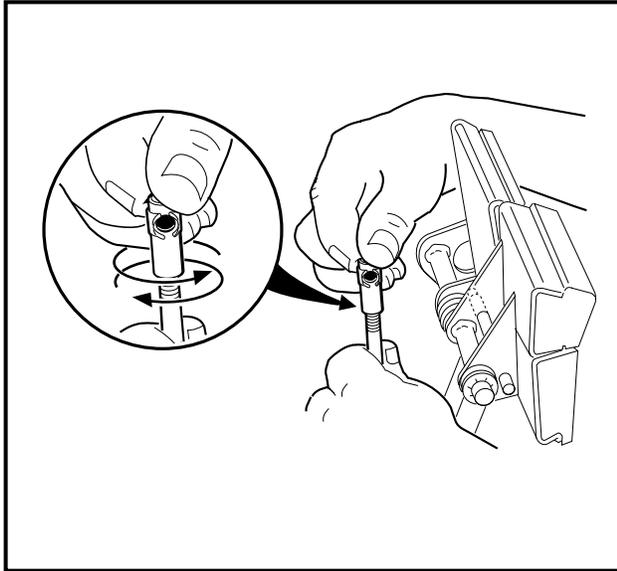

Figure 5-40 Brake Rod Adjustment
- 4.6. If ratchet/pawl engagement must be adjusted, disconnect the ball joint at the top of the brake rod and rotate the ball joint sleeve clockwise to increase engagement or counterclockwise to decrease engagement. Reconnect ball joint (**Figure 5-40, Page 5-24**).